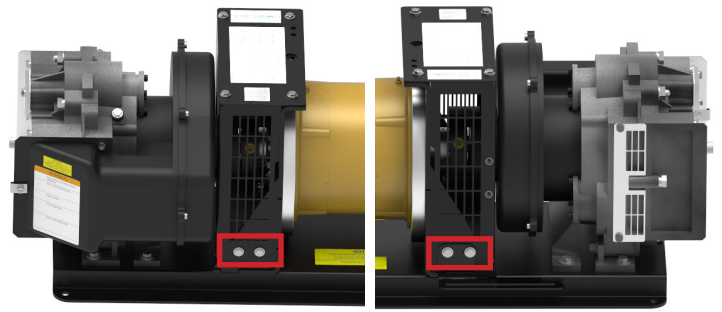

Figure 32
9. Loosen the bolts securing the plumbing bracket to the side of the coupling guard. Loosen the bolts on the opposite side, also. Figure 32 highlights the bolts to loosen in this step.